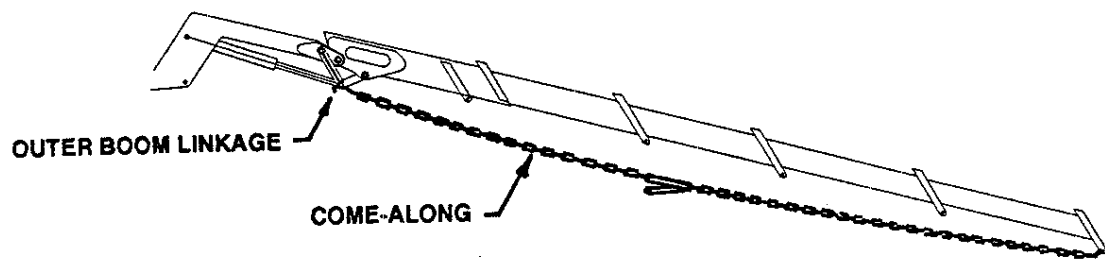

Figure G-4. SECURING BOOMS
3. Secure the end of the last extension to a suitable place on the boom, such as the outer boom linkage - rod end side - with a "come along", to keep extension booms retracted during removal of extension cylinders. See Figure G-4.